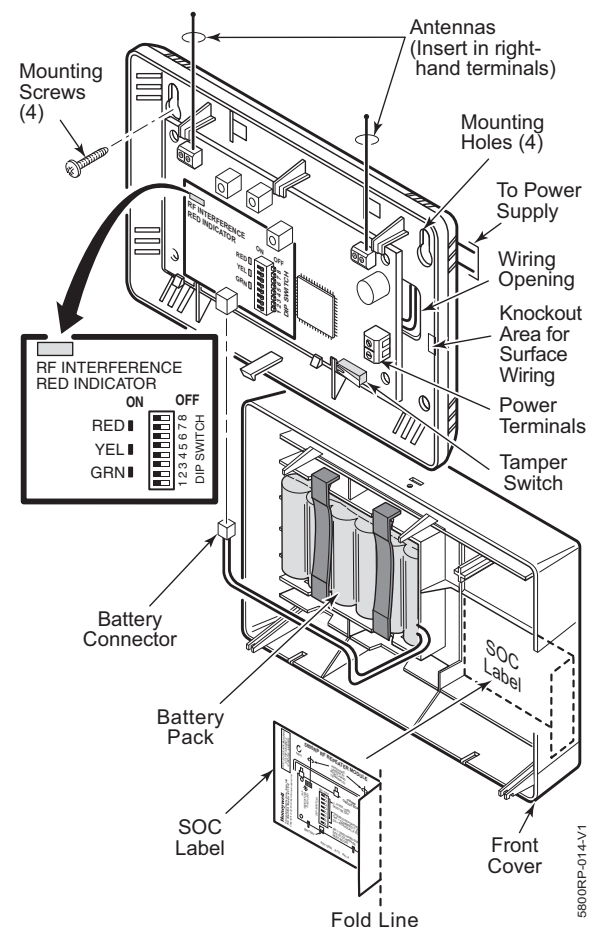

Figure 3: Mounting the Module
Check for RF Interference: Before mounting permanently, use the red RF Interference LED (see Fig. 3) to check for strong local radio frequency interference at the intended mounting location. If this LED is continuously lit, the 5800RP module should be relocated.
1. For concealed wiring, route power wires through the rectangular opening at the rear of the base before mounting. See Figure 3.
4. Fold and affix the Summary of Connections label to the inside front cover. See Figure 3.
The 5800RP is powered from an AC external power source connected to terminals 1 and 2. See Figure 3.
5. Connect the transformer to the 5800RP's terminals. Refer to Figure 3. These terminals are not polarized. The leads from AC transformer may be connected to either terminal. Do not connect to a receptacle controlled by a switch.
6. Plug the battery cable into the battery connector on the 5800RP PCB. See Figure 3.
Red	Normally off. See Figure 3.
Red RF Interference	Lights when RF activity is present. See Figure 3.